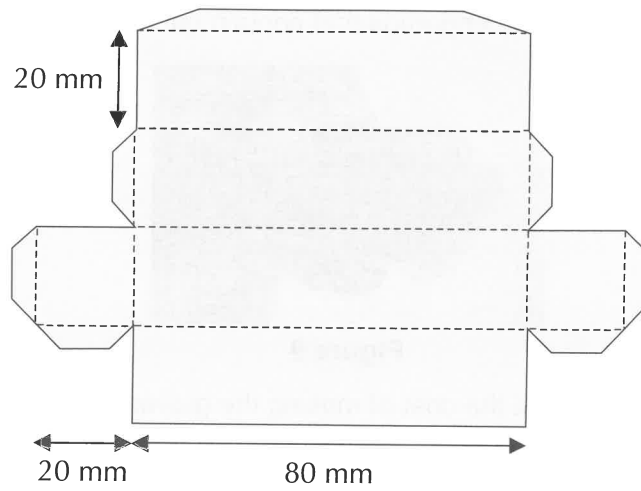

Figure 8
24 **Figure 8** shows the net of a gift box.
24.1 On the isometric grid below, produce an isometric drawing of the gift box shown in **Figure 8** when it is assembled.